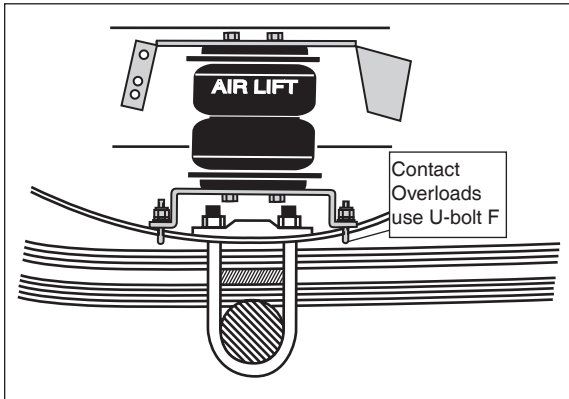

Figure 6
- a. If the vehicle is equipped with factory frame contact overload springs, the lower bracket should be attached using the short U-Bolts (S) provided in this kit (Figure 6).
1. If the spacer is not used, then attach the lower bracket securely using the provided U-Bolts (R), flat washers (O), and lock nuts (U) (Figures 6 and 8).